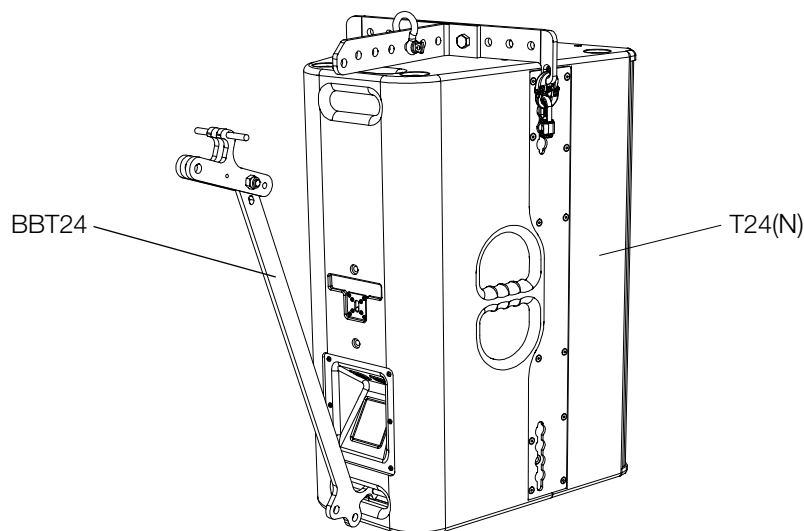

Figure 3.10.1 - Hook the BBT24 bracket in the lower handle
Place the T24(N) loudspeaker on a non-slip surface and hook the BBT24 bracket into the lower handle of the T24(N) loudspeaker as shown in Figure 3.10.1.